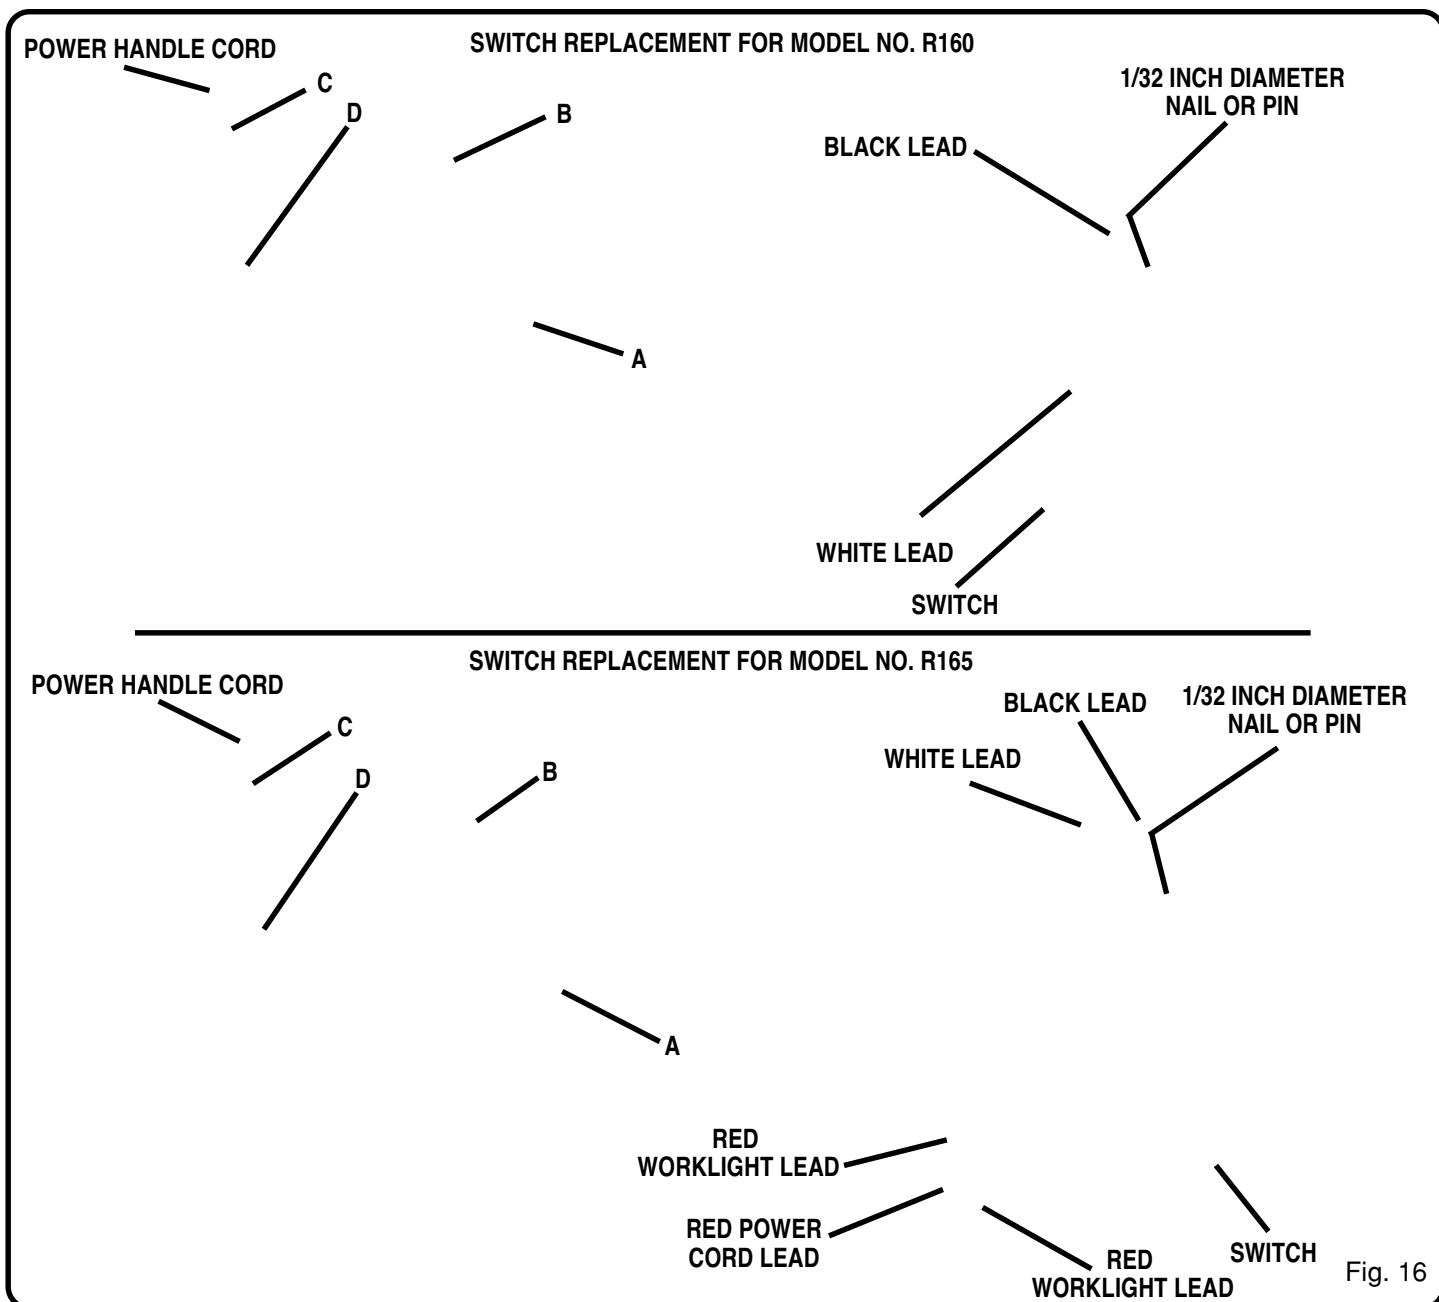

Fig. 16
See Figure 16.
4. Remove screws (A) and subbase (B). See Figure 16.
5. Remove screw (C) and work light lens (D).
6. With bulb (E) pointing toward you, pull bulb from socket.
3. Remove screws (A) and handle cover (B). See Figure 16.
4. **NOTE THE LOCATION OF THE MOLDED BEND RELIEF (C) ON THE POWER HANDLE CORD. ALSO**
NOTE ALL WIRING IN THE HANDLE AND HOW EACH LEAD IS CONNECTED TO THE SWITCH. Connections and wiring position must be identical when installing new switch. See Figure 16.
5. Remove leads from switch (D) by inserting a 1/32 in. diameter nail or pin into switch lead receptacle and pulling on lead as shown in figure 16. Remove nail or pin with a twisting, pulling motion.
8. Make sure molded bend relief (C) is correctly positioned in switch handle, then replace handle cover and screws.